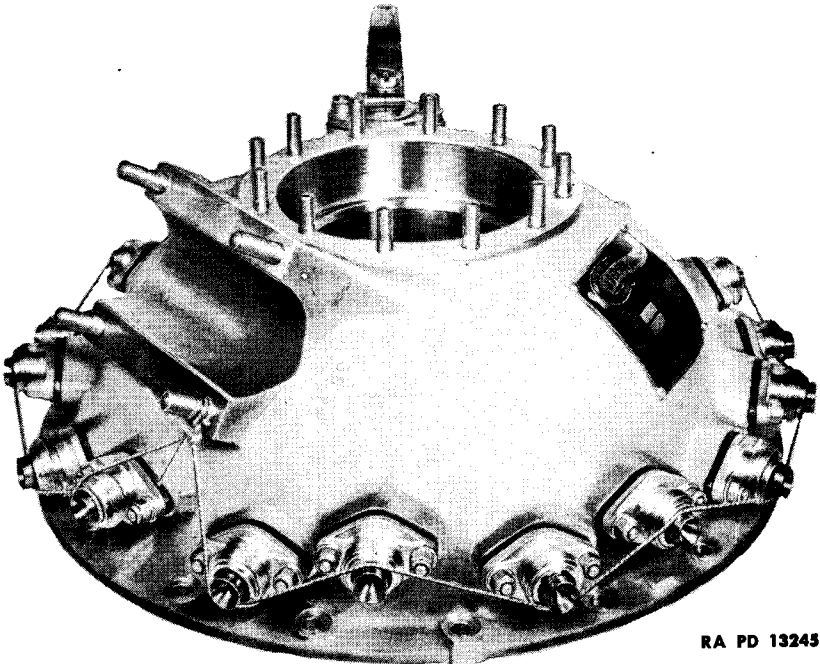

Figure 82—Crankcase Front Section with Tappets Tied
112. INSTALL THE CRANKCASE FRONT SECTION (fig. 82).
Nos. 1-2-3-9-8-cylinders.) Then install the rest. Use proper gasket on top of tappet guide flange and then mount guide adapter, holding in place with flat washer and elastic stop nuts. (NOTE: Adapters are marked intake and exhaust; intake go on lower level away from nose, exhaust at upper level.) Tie out all tappets (fig. 82).
c. **NOTE:** It is advisable to tie the tappets with twine to hold them "out" while installing the crankcase front section as shown in figure 82. Since the section will be removed later, no gasket is necessary at this time. Also, the spacer, bearing, gland and nut are not installed at this time. Place the crankcase over the crankshaft and down on the crankcase studs, with the steady rest tube at No. 5 and No. 6 cylinders. Bolt the crankcase front section down in four places, using flat washers and plain nuts (9/16-in. socket wrench).